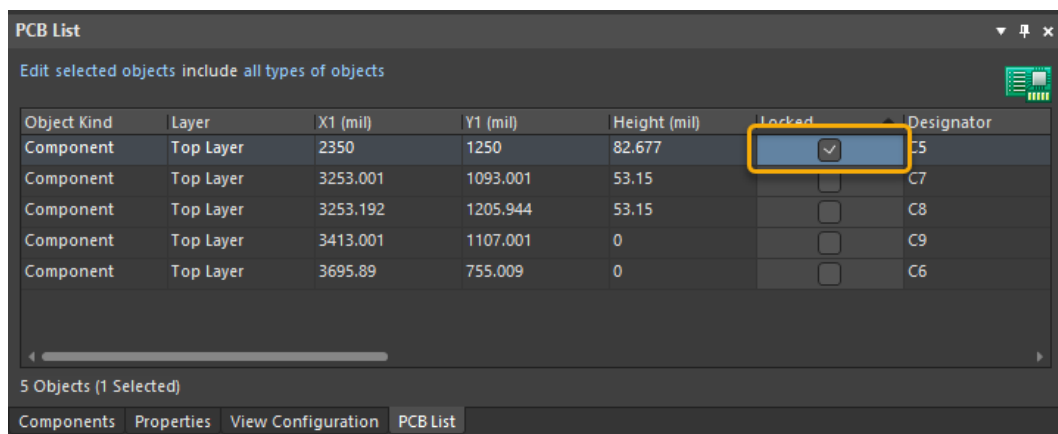

Figure 15. Enable Locked
46. Enable the **Locked** checkbox for the first component in the *PCB List* panel, as seen Figure 15